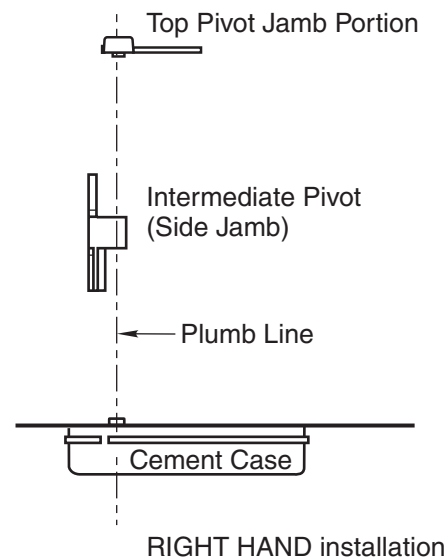

Figure 2
3. Drop plumb line from top pivot. See Figure 2 at right. (Use of Rixson 2604 Pivot Aligning Tool is recommended)